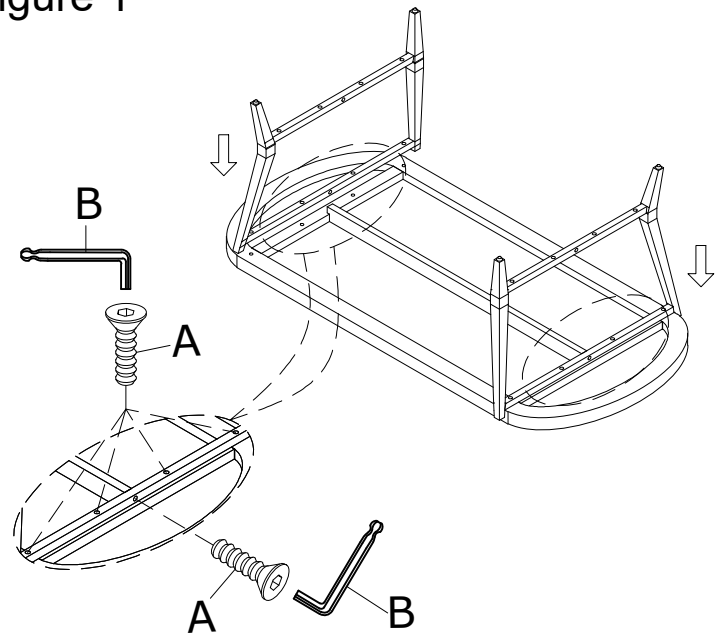

Figure 2
3. Attach shelf panel to the metal legs using Countersink Bolt (A), and the Allen Wrench (B).As Shown in Figure 2. (Do not over tighten bolts during assembly)